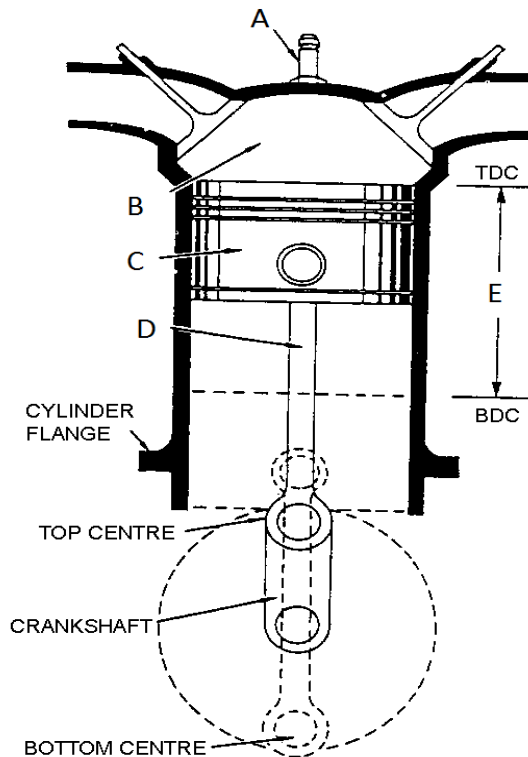

FIGURE 1
6.1. FIGURE 1 shows a combustion engine. Name the labelled components by writing only the answer next to the letter (A–E) in the ANSWER BOOK.